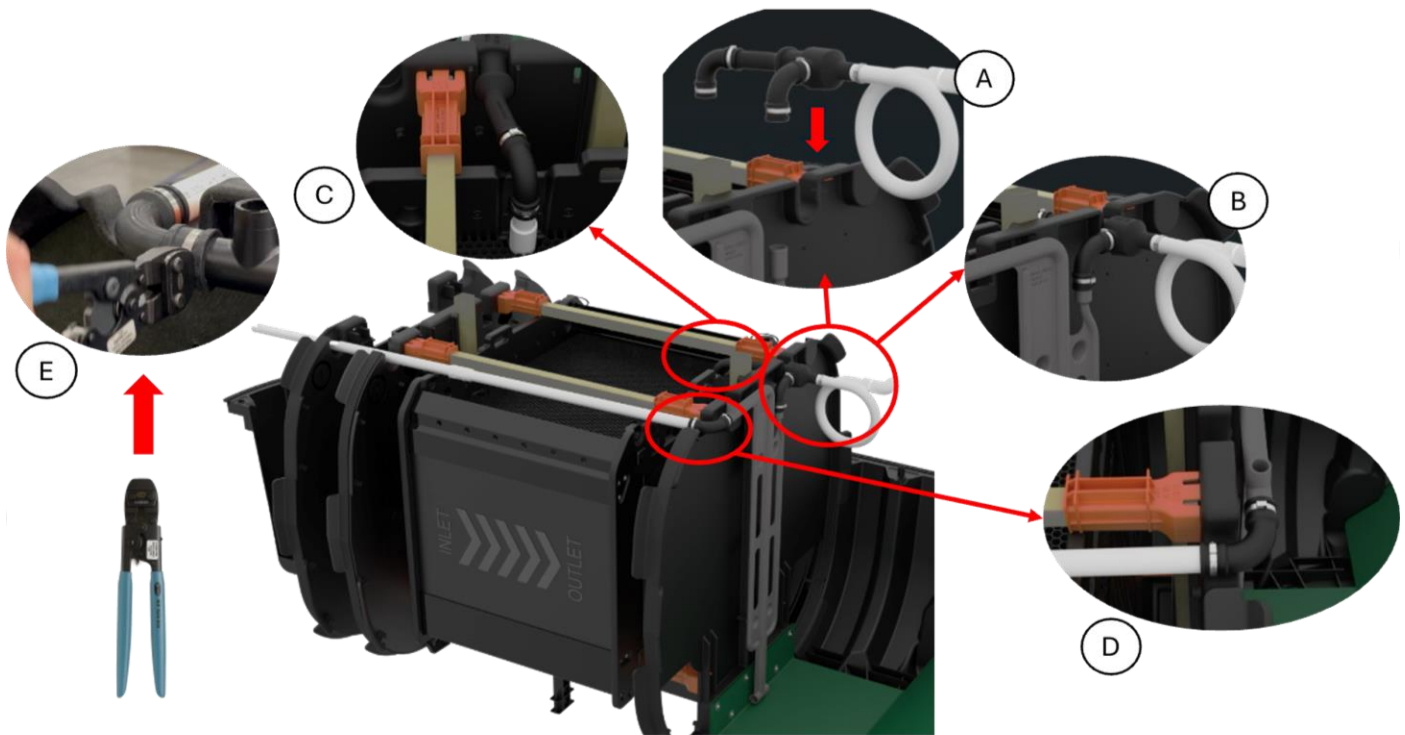

Figure 9: Internal plumbing assemblies
- Install air inlet manifold:** Slide in the air inlet manifold (item 4) into the groove on the top of the clarifier baffle (Figure 9Ⓐ).
- Connect air lift manifold:** connect the air inlet manifold on Figure 9Ⓐ to the air lift manifold pre-assembled on the clarifier baffle ③ using the loose end of the flexible elbow.
- Connect reactor's air grid:** connect the other end of the air inlet manifold with the visible pipe that runs from the bottom to the top of the reactor box on the outlet end as shown in Figure 9Ⓒ, using the loose end of the flexible elbow.
- Connect return-recirculation pipe:** assemble the recirculation pipe and slide it through the hole in the inlet baffle ① all the way to the slot on clarifier baffle ③. Using one 1" x 90° flex elbow fitting with clamps, attach recirculation pipe to the air assembly affixed to the clarifier baffle ③ as shown in Figure 9Ⓓ.